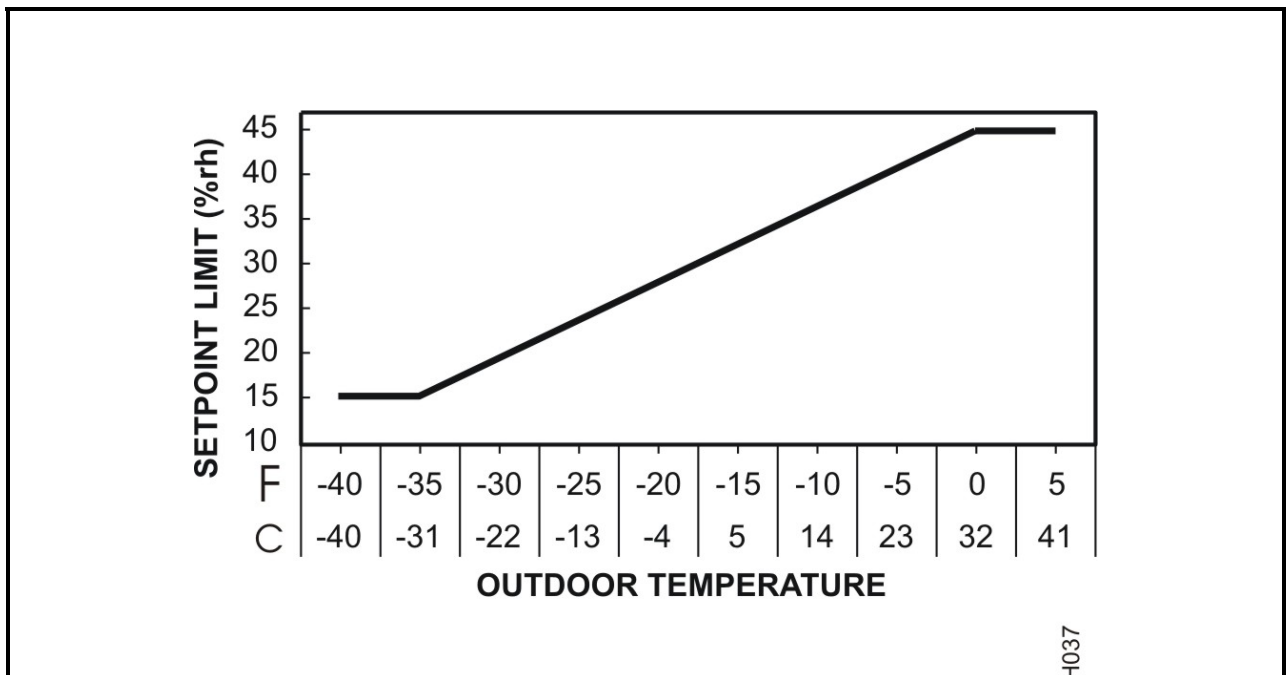

Figure 10. Setpoint Versus Outdoor Temperature
- (1) Each humidistat and controller is equipped with an integrated reset function that will limit the setpoint during cold weather operation. This will prevent condensation on windows and building structures. Figure 10 illustrates how the setpoint reset feature operates.
- (2) This feature is enabled by removing the jumper from terminals 8 and 1 on the humidistat and wiring the outdoor temperature sensor to these terminals.
- (3) When the outdoor temperature setback feature is in effect, the humidistat will normally display the calculated setpoint limit based on the outdoor air temperature. A snowflake will also be displayed to indicate cold weather operation. When any key on the controller is pressed, the LCD screen will display the customer specified setpoint for a short duration.